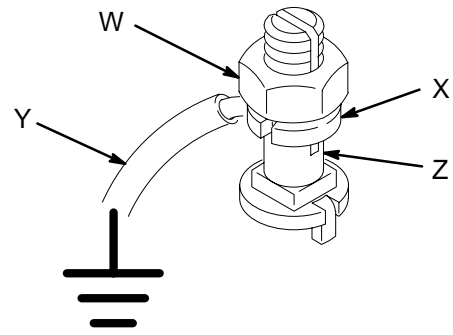

Fig. 2
Premier Pumps: use a ground wire and clamp. See Fig. 2. Loosen the grounding lug locknut (W) and washer (X). Insert one end of a 1.5 mm² (12 ga) minimum ground wire (Y) into the slot in lug (Z) and tighten the locknut securely. Connect the other end of the wire to a true earth ground. Order Part No. 222011 Ground Wire and Clamp.